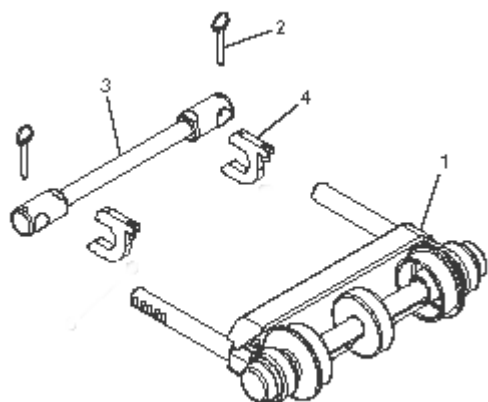

Figure 11
Typical Tip Up Tail Components (**Figure 11**)
Adjust the acorn nuts (Figure 11, item 5) on the key stops (Figure 11, item 4) to raise or lower the tip up tail assembly.